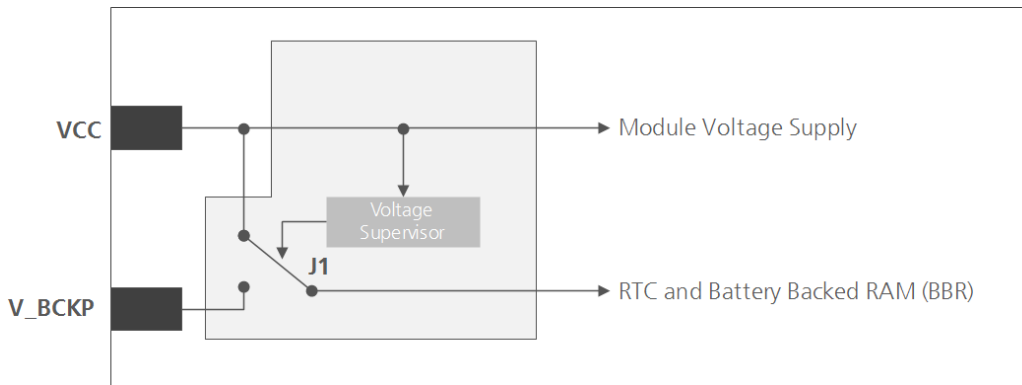

Figure 1: Backup battery and voltage
- As long as **VCC** supplies the CAM-M8 antenna module, the backup battery is disconnected from the RTC and the BBR to avoid unnecessary battery drain (see Figure 1). In this case, **VCC** supplies power to the RTC and BBR.